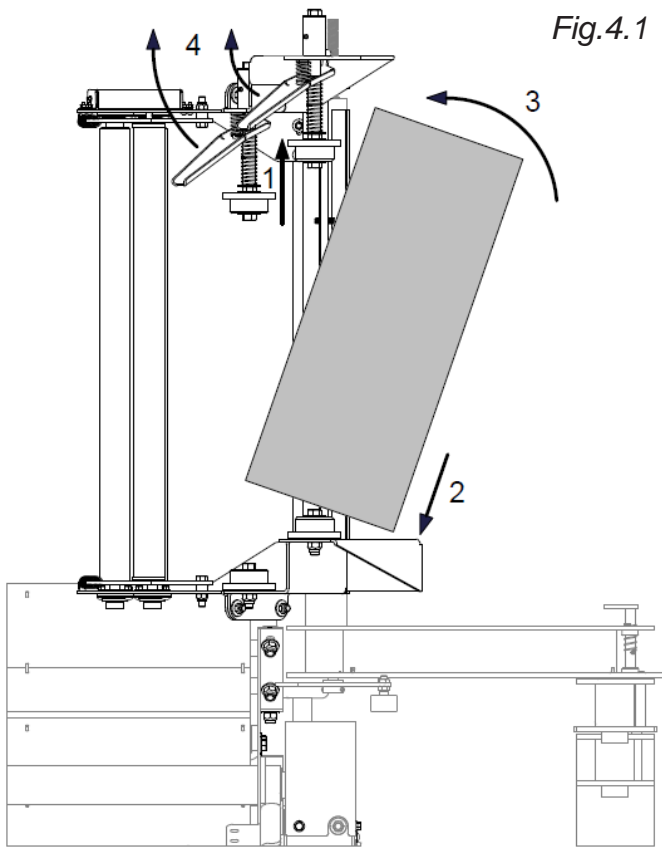

Fig.4.1
4. Lift handles to snap spring loaded plastic holders into tops of plastic rolls, this will hold them in place while in use. (Fig.4.1)